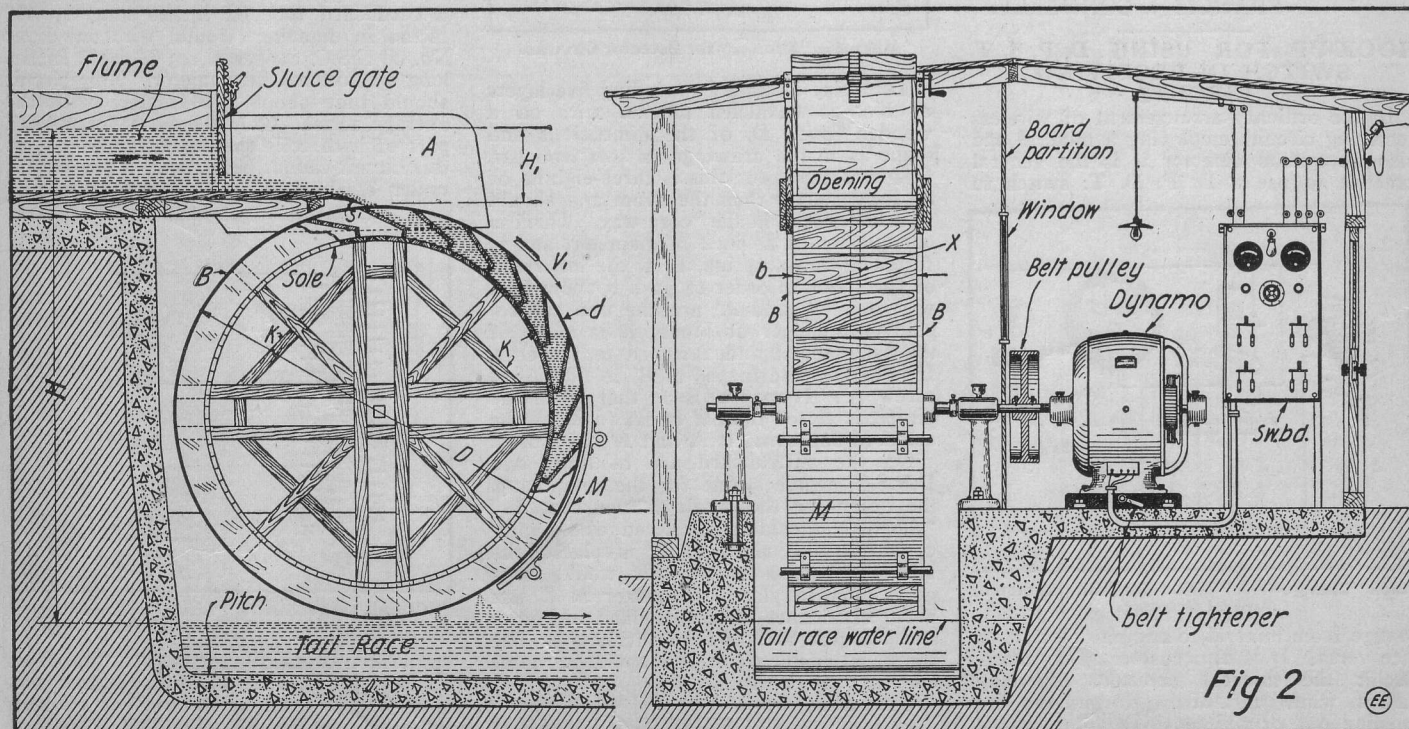
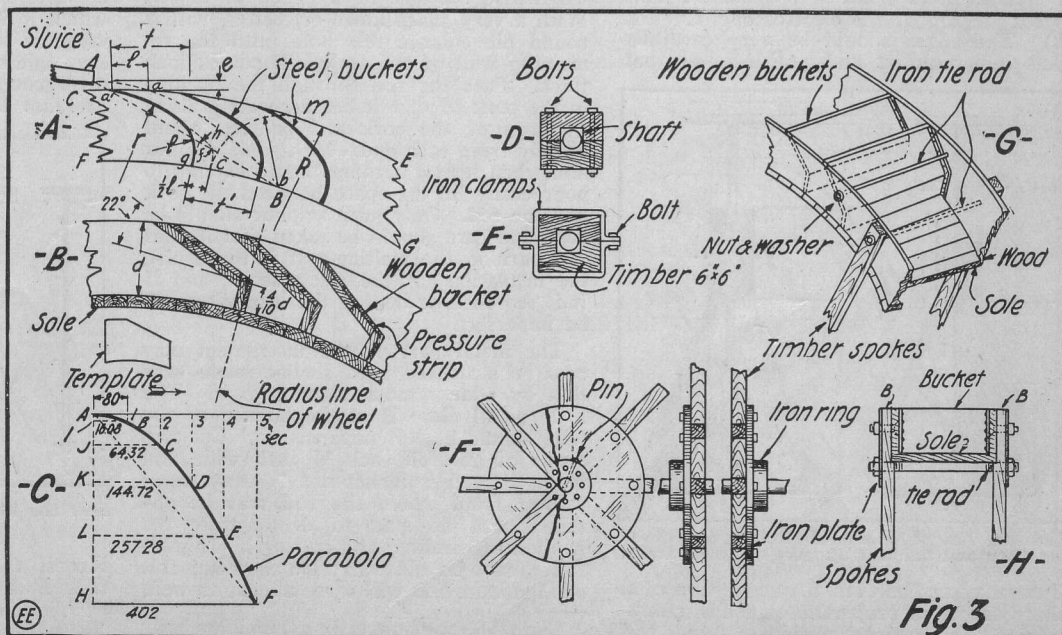

Fig. 2. General Arrangement of an Over-Shot Wooden Bucket Water Wheel, Including Suggestion for Dynamo and Switch-Board House.
Fig. 3. Details for Laying Out Iron and Wooden Buckets of Water Wheel. Also How Spokes and Axle May be Arranged in a Substantial Manner.
Next, from sheet brass $\frac{1}{8}$ inch thick cut a circular disc $1\frac{1}{4}$ inches in diameter. This is for the top of the electroscope T. (Fig. 2.) The edges should be very carefully filed off, rounded and polished, so that
to the zincs serve to lift them out of the jars (Fig. 2). So that the two or more rods, C, may turn at the same time, pieces of friction tape are used for the belts, as indicated in Fig. 3. If the tape is very sticky the zincs will stay raised without a weight, but if the zinc elements will not stay up alone a clamp or catch may be attached to one of the rods. A small handle can be attached to one of the drums very easily. If five of these cells are connected in series they will work well on coils up to one inch; for larger size coils a few more cells will be required, and they should be connected up as in Fig. 4. It is understood that the carbons of the former batteries are used in these cells.
2. Tap Lever.—Material, bolt, nut and nail. Drill hole in end A, then slit with saw. Run nut C back on bolt. Insert tap and tighten nut C. (Fig. 2.)
3. Key-hole Saw.—Use broken saws, brass pipe and 2¼-inch 8-32 machine screws. Flatten end of pipe in vise. Drill and tap this for the machine screws. Insert saw which has been tapped for the screws and tighten the screws. (Fig. 3.)